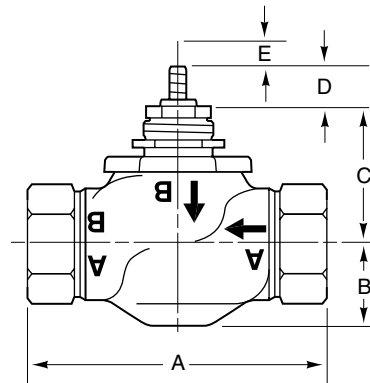

Figure-5 Typical of VB-7213-0-4-P Valve Bodies.
**Table-10 Dimensions for VB-7213 Series Valve (Figure-5).**